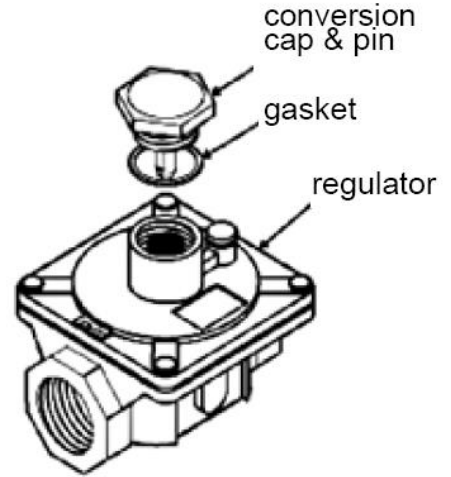

fig. 1 Gas pressure regulator
7. To operate the LP gas, the regulator must be changed to operate at 10" WC. (See Fig.1 on page 4). To do this remove the converter cap and pin from the regulator taking care that the gasket is in place on the cap.